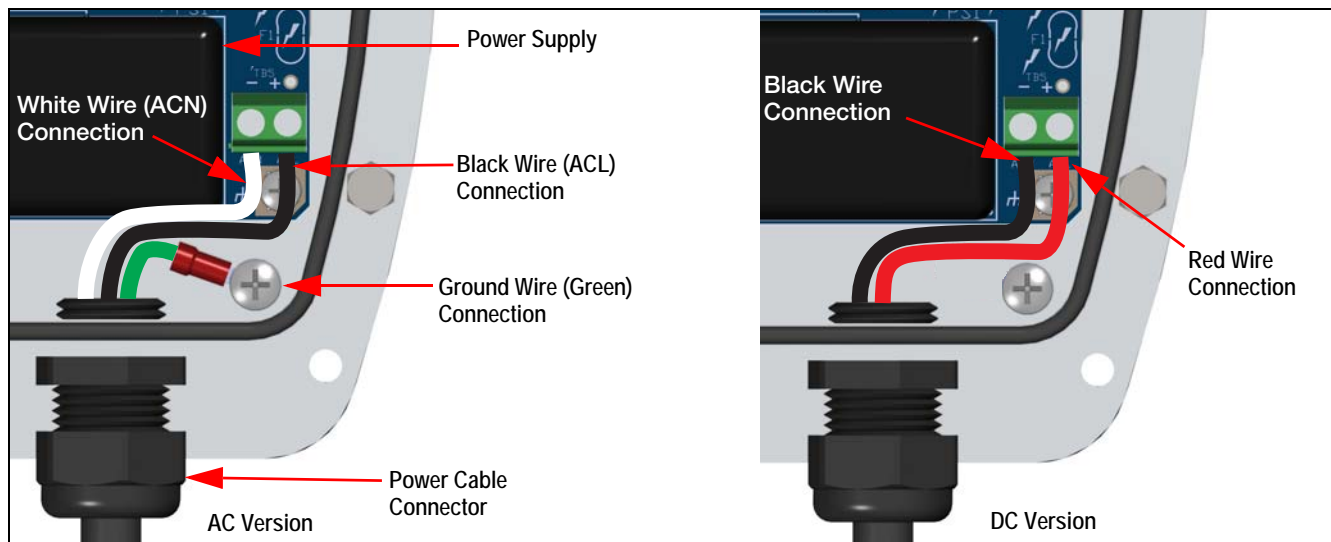

Figure 3-4. Power Supply
5. Push new cable through the cable connector and reconnect wiring as shown in Figure 3-4.